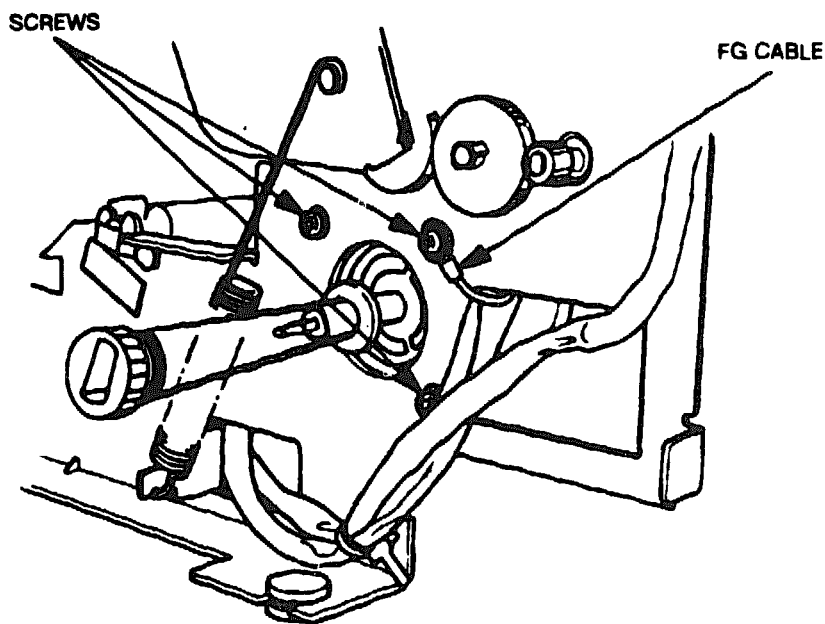

Figure 6-92 LF Motor Removal
4. Remove the three screws that secure the LF motor to the lower side plate (R) and lift the LF motor assembly away from the printer (see Figure 6-92).
When replacing the LF motor assembly, fasten the FG cable to the upper right screw on the lower side plate (R) as shown in Figure 6-92 and adjust the tension of timing belt B140MXL9.5 (refer to Section 4).